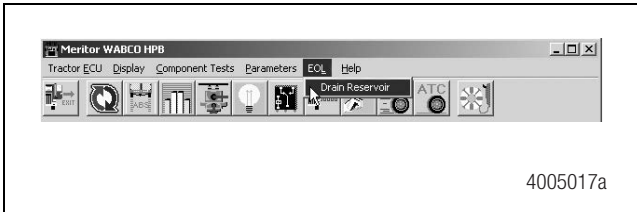

Figure 4.3
- D. From the HPB Main Menu, select **EOL** to enable the End of Line test. The pull-down option, **Drain Reservoir**, will appear. Click on **Drain Reservoir** to start the drain procedure. Figure 4.3.